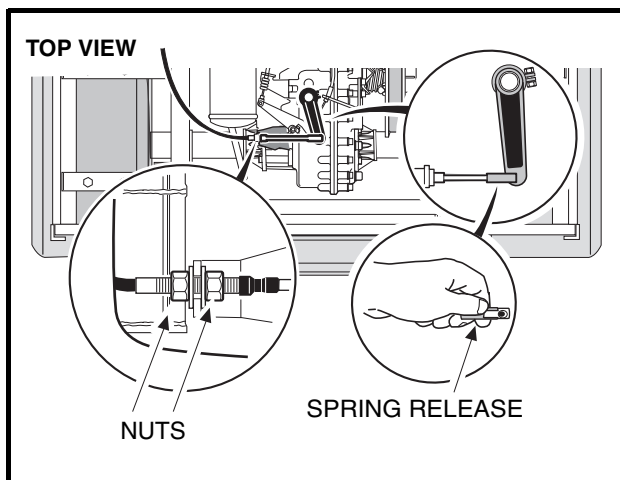

Figure 16-49 Connect Shifter Cable
- 26.5. Position the shifter cable in the shifter cable mounting bracket on the transaxle and tighten the mounting nuts to 22 ft-lb (29.8 N·m). Connect shifter cable rod end to the shifter arm (**Figure 16-49, Page 16-20**).